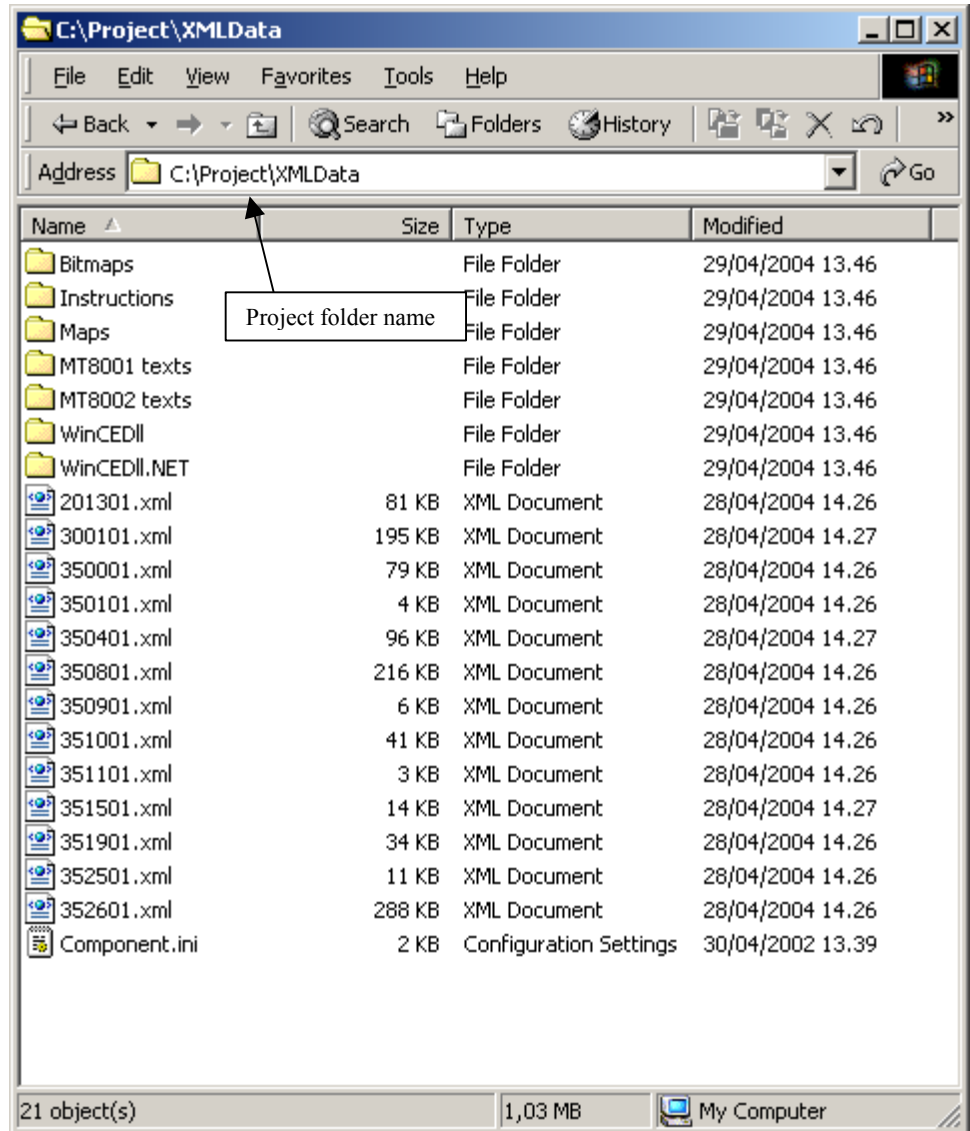

Fig. 2 XMLData folder
- has to be localised in Catalyst, exported and then copied into the 'XMLData\MT800x texts' folder under the MT8000 project directory (see "XMLData" folder structure in Fig. 2).